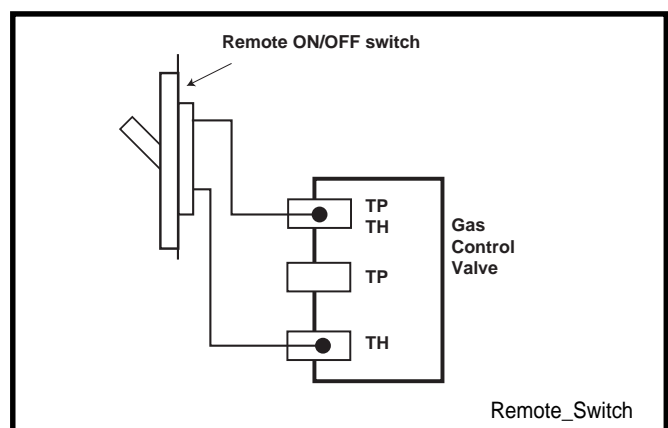

Fig. 7 Remote switch wiring diagram for R models
3. Connect the other ends of the wire to the gas control valve, as shown in Fig. 7.